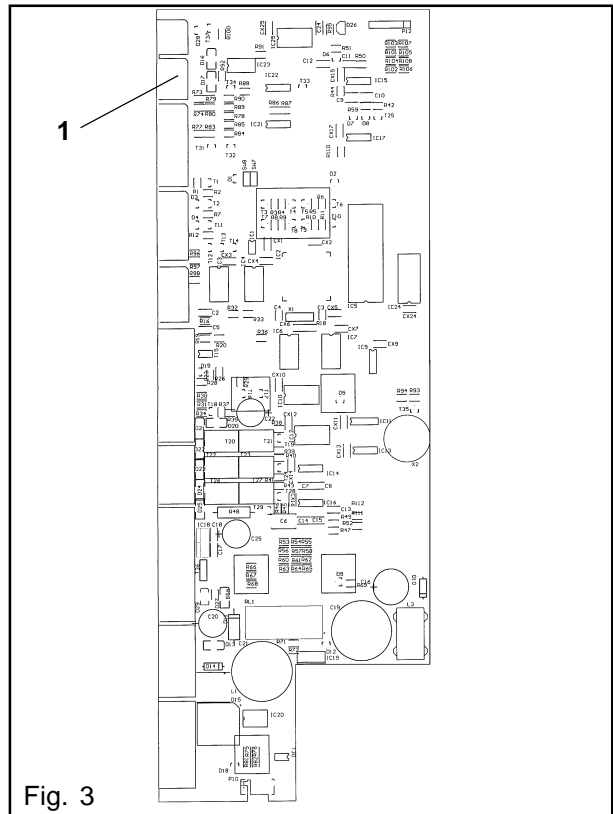

Fig. 3
- Connect the MCB-Executive Data cable harness (part no. G-6973) to P8 of the control unit (1, fig. 3) and to the card reader.